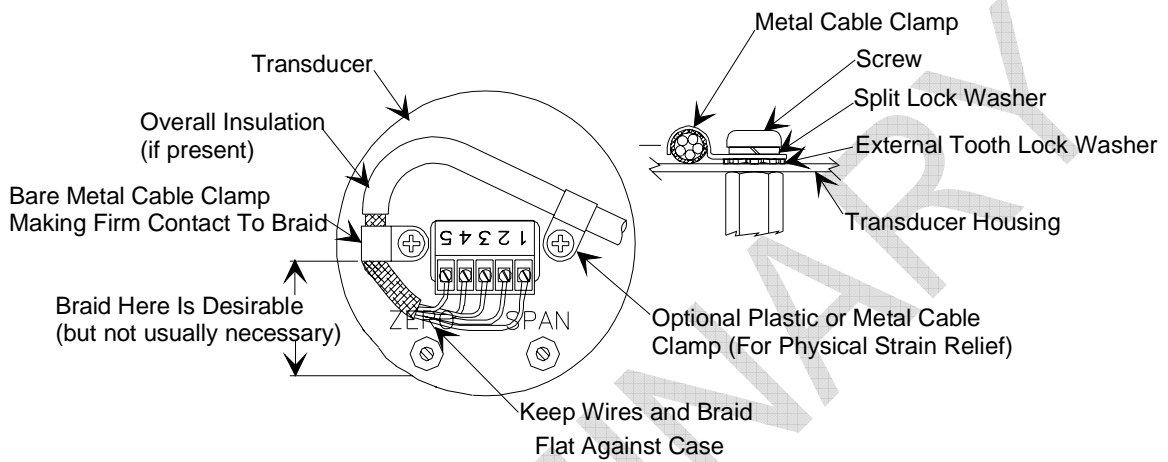
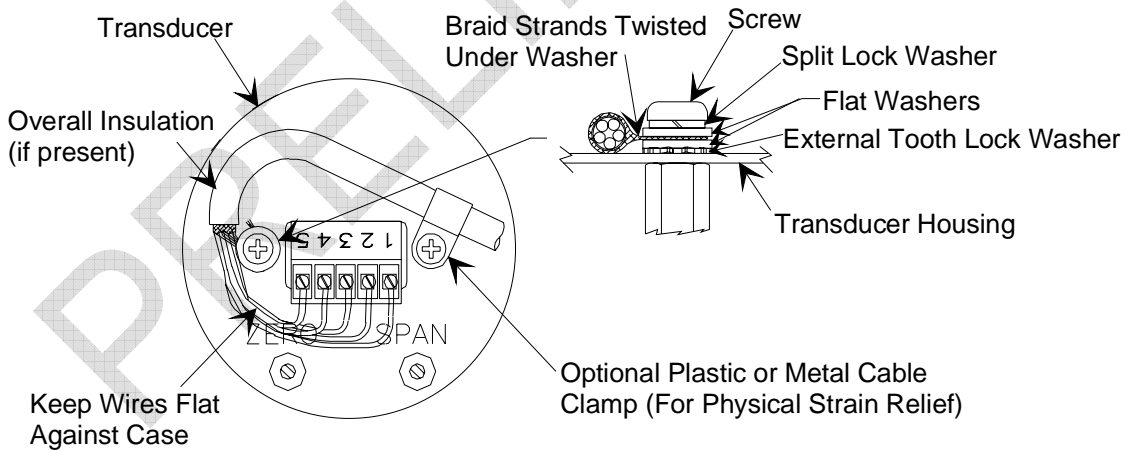

Figure 2: How To Connect the Cable to a Terminal Block (Example 1)
Figure 3: How To Connect the Cable to a Terminal Block (Example 2)
4. For shielded cables with flying leads at one or both ends; it is important at each such end, to ground the shield *before* the wires exit. Make this ground with absolute minimum length. Refer to Figures 2 and 3, page 55. (A ¼ inch piece of #22 wire may be undesirably long since it has approximately 5 nH of inductance, equivalent to 31 ohms at 1000 MHz). After picking up the braid's ground, keep wires and braid flat against the case. With very few exceptions, grounded metal covers are not required over terminal strips. If one is required, it will be stated in the Declaration of Conformity or in the instruction manual.
The cable to the terminal block connector must be firmly attached to the top of the transducer, in order to comply with CE Mark requirements. Figure 2 shows the preferred method to connect the cable; using a metal cable clamp to affix the cable to the transducer. Figure 3 shows an alternate method; wrapping the braided shield under the screw. Both examples show the cable securely clamped to the transducer.